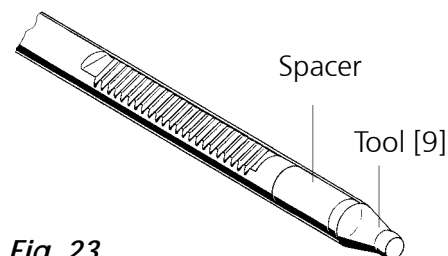

Fig. 23
Fill the teeth of the rack (3) with grease (for the grease type please refer to the spare parts list). Put the spacer and tool [9] on the rack (3) as shown in **Fig. 23**.